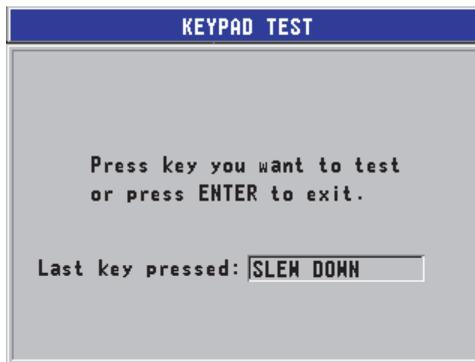

Figure 12-2 The KEYPAD TEST screen
4. When **KEYPAD TEST** is selected, in the **KEYPAD TEST** screen (see Figure 12-2 on page 198), perform the following steps: